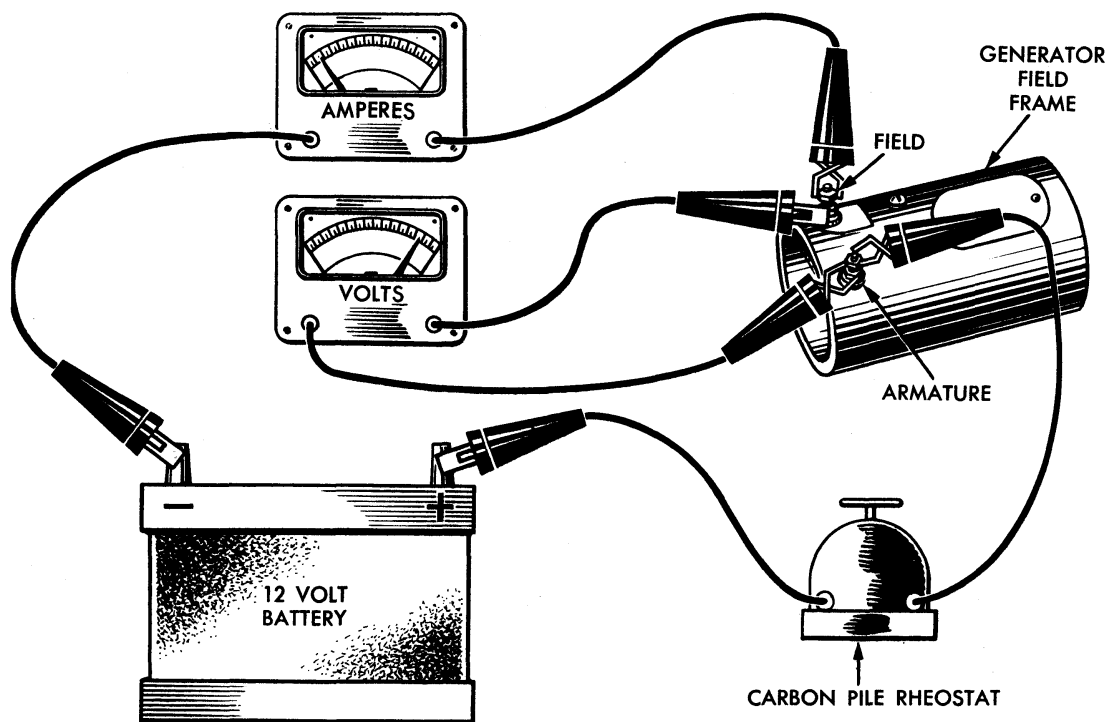

Fig. 9—Testing Field Current Draw
d. Testing Field Current Draw (Fig. 9)
Test field coils for short circuits between windings, high resistance connections, or for improper coils, by connecting test equipment, as shown in Figure 9. Adjust battery voltage to specified voltage of 10-volts with rheostat. The reading on ammeter indicates field current draw. A current reading that exceeds 1.2 to